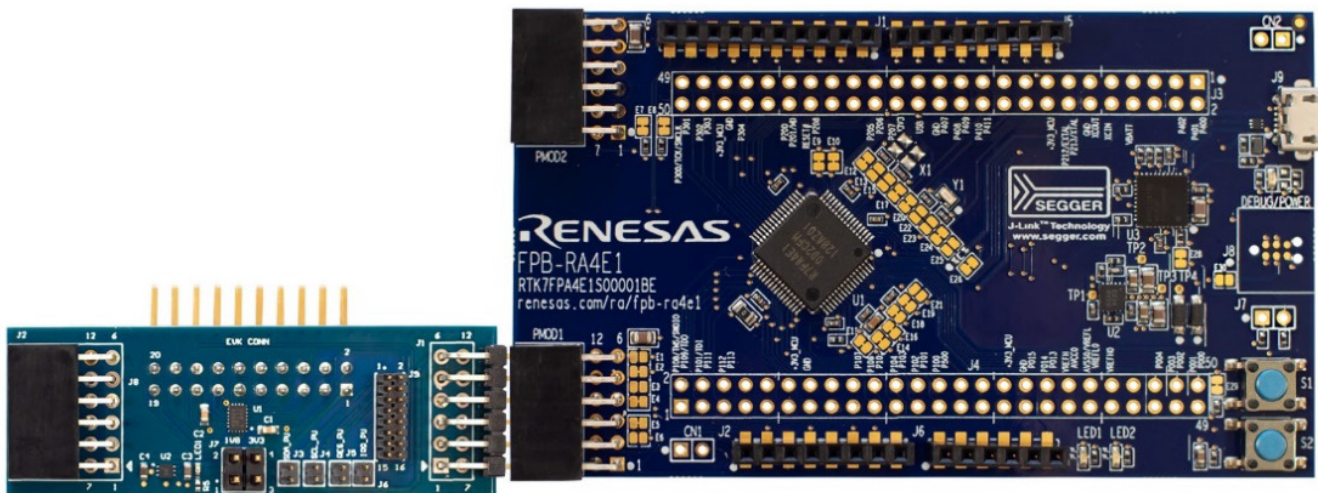

Figure 8. RA MCU and QCIOT Board Connection
- Connect J1 of the QCIOT-SLG46826POCZ board to PMOD1 of the FPB-RA4E1 board as shown in Figure 8.